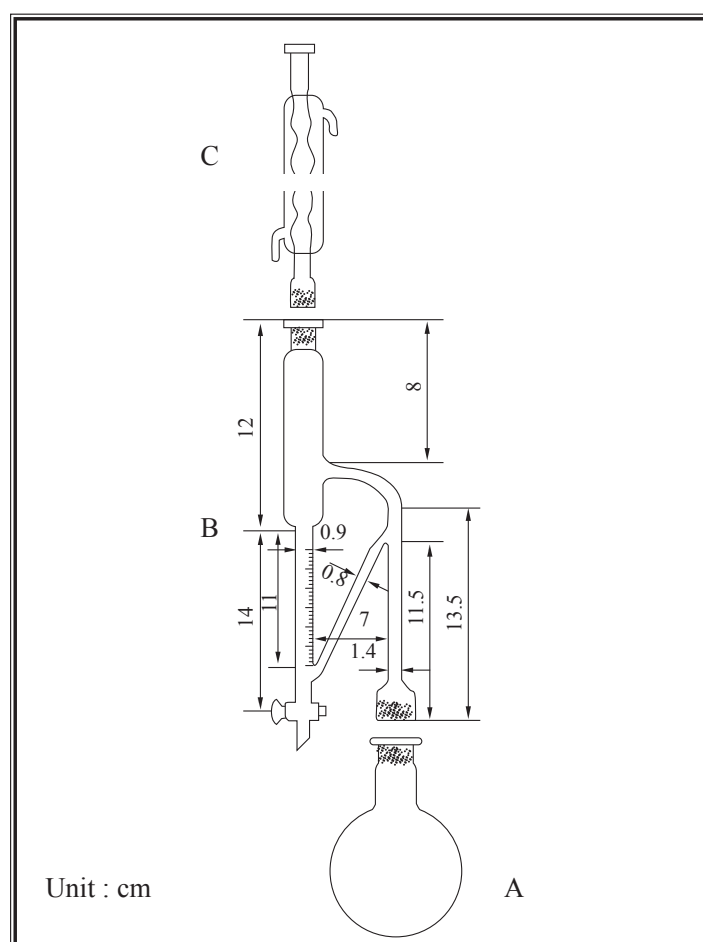

Figure 1 Apparatus for the determination of volatile oil in CMM samples
- (1) **Preparation of test sample** – Pulverize CMM sample, pass through No.2 or No.3 sieves and mix well, unless otherwise specified.
- (2) **Apparatus** – The apparatus (Fig. 1) consists of a 1000-mL (500-mL or 2000-mL) round-bottomed flask (A), a volatile oil determination tube (B) and a reflux condenser (C). All parts are connected via ground glass joints. The measuring tube of B is graduated in 0.1 mL. The apparatus should be cleaned before use and all parts of apparatus should be tightly connected to avoid the loss of volatile oil.